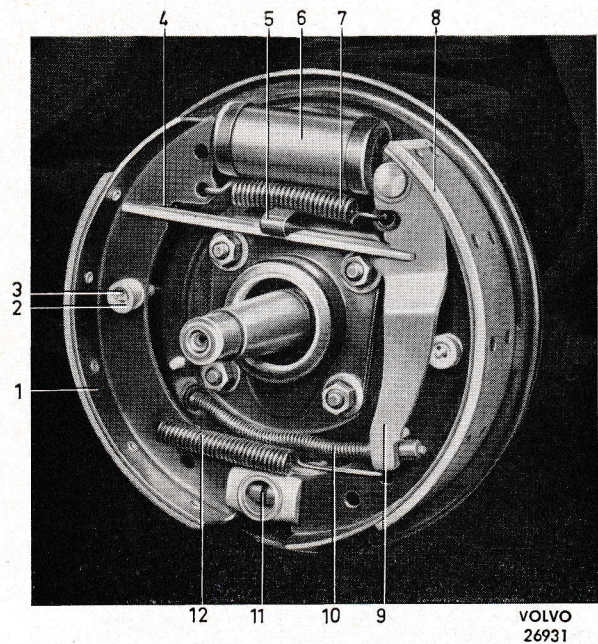

Fig. 45. Rear wheel brake unit.
2. Rivet on the ready-manufactured original linings. The front lining is placed at the bottom of the shoe and the rear one on top, see Fig. 45. Use rivets in accordance with the specifications and a rivet press with suitable drifts. Begin to rivet at the centre and continue outwards towards the ends. Check after riveting that the brake lining beds down properly along its whole length.
3. Place the handbrake link in position and make sure that it is turned the right way round. Hook on the lower return spring and fit the front brake shoe with guide pin and locking clip. Hook on the upper return spring with brake pliers. Remove SVO 4074. Fit the spring clip (5, Fig. 45).